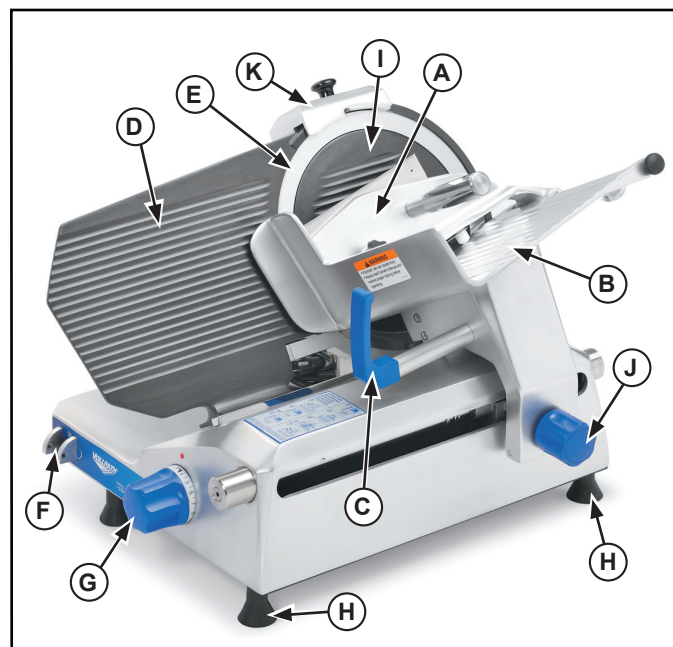
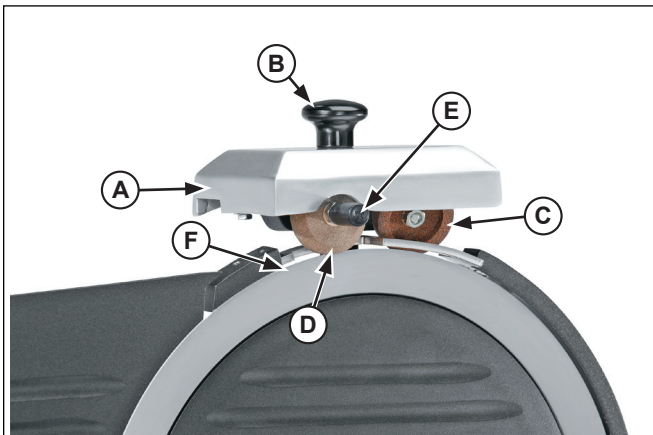

Figure 1. Features and Controls
Figure 7. Sharpening Assembly and Blade, in Sharpen Position
1. Slide the product tray (B) to the load/start position (closest to the operator). See Figure 1.
2. Lift the food pusher (A) and place the food product to be sliced on the product tray (B) in contact with the gauge plate (D).
3. Place the food pusher (A) either on top or behind product to be sliced.
4. Set the desired thickness of slice using the regulator knob (G).
5. Switch the on/off switch (F) to the "ON" position.
6. Using the product tray handle (C) push the product tray (B) back and forth to slice the food.
7. When finished slicing, turn the on/off switch (F) to the "OFF" position.
8. Set the thickness to "0" using the regulator knob (D).
3. Turn the regulator knob (G) to the "0" position. See Figure 1.
1. Turn the on/off switch (F) to the “OFF” position. See Figure 1.
4. Turn the on/off switch (F) to the “ON” and resume operation.
1. Turn the on/off switch (F) to the "OFF" position. See Figure 1.
2. Turn the regulator knob (G) to the "0" position.
3. Clean the blade (E) following the *Cleaning Section* of this manual.
4. Use the knob (B) to lift the sharpener head (A) and rotate it 180° to the sharpen position. See Figure 7.
5. Push the sharpening assembly (A) down firmly so that the angled wheel (C) is pressed against the blade (E).
6. Turn the on/off switch (F) to the "ON" position for 30 seconds. See Figure 1.
7. At the end of the 30 second sharpening cycle, and push the de-burring stone button (E) to gently push the stone (D) against the blade (F), for approximately 2 seconds. See Figure 7.
8. Turn the on/off switch (F) to the "OFF" position. See Figure 1.